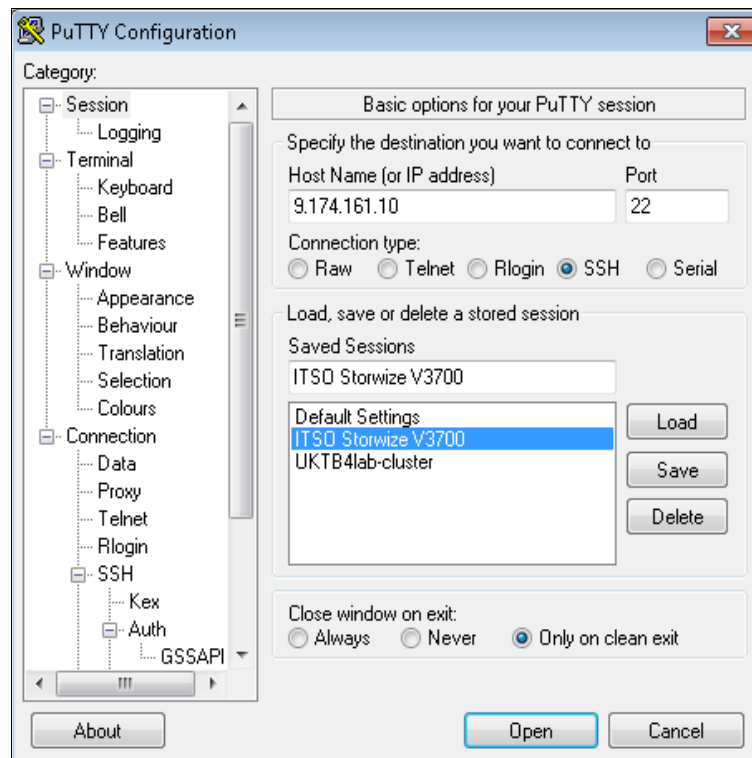

Figure A-13 Enter session information
6. In the right side pane, enter the host name or system IP address of the IBM Storwize V3500 clustered system in the Host Name field. Enter a session name in the Saved Sessions field, as shown in Figure A-13.